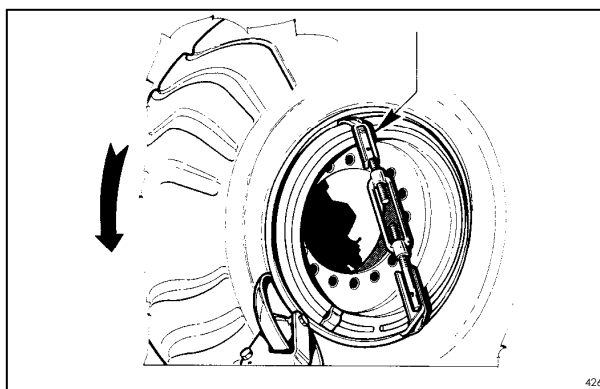

Fig.38
2. Position the tool close to the rim edge (Fig.38). When the lock ring is stuck to the bead, (on the O.T.R. tires) to make it to break the bead, it is necessary to hold it to the rim with the appropriate clamp #4007611 (on request).